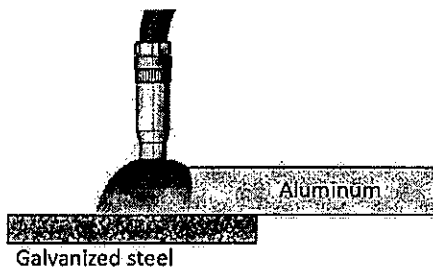

Figure 6
- (b) Both galvanized steel and aluminium alloy are used in manufacturing of car structures, so joining between the two materials sometimes becomes necessary, as illustrated in Figure 6. If the joining is carried out by a fusion welding process using arc or laser as the heat source, what would be the potential problems? In your opinion, is it feasible to carry out the joining process using an arc by carefully controlling heat input from the arc to melt the aluminium alloy only (i.e., the steel is not melted)? Give your reasons.